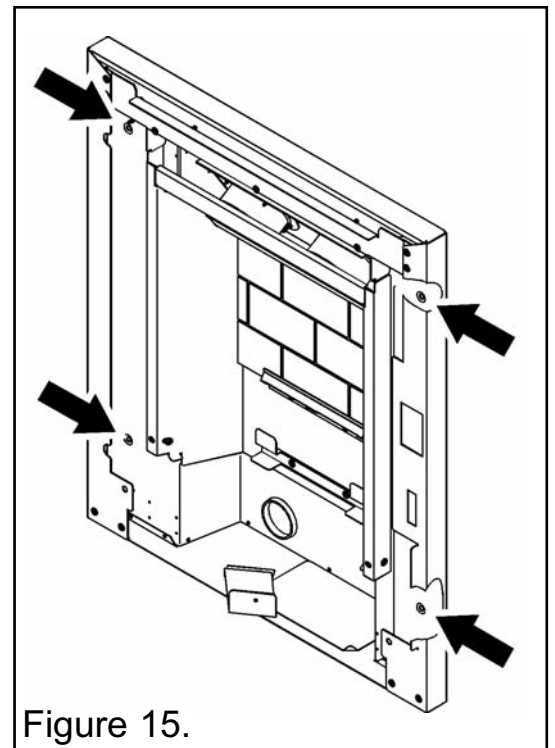

Figure 15.
3. Mark the fireplace front surround through the four fixing holes in the side flanges of the convection box (See figure 15).